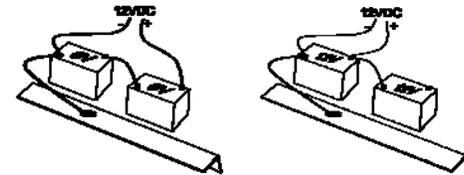

Figure 7-2. Connecting to 6 volt or 12 volt batteries.
- Make sure you are connecting to 12 volts and not 24 volts.** See Figure 7-2.